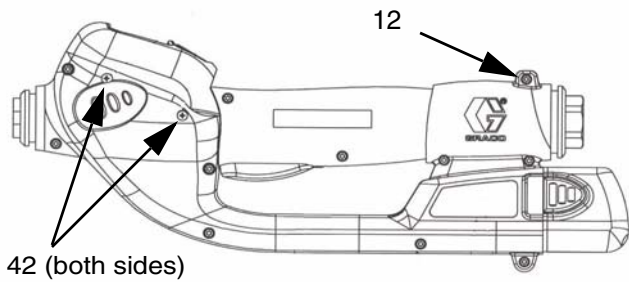

FIG. 24
2. Remove the battery (11). See **Parts Drawing for the 246008 and 249881 Electronic Meters** on page 32.
3. Slide the rear boot (24) off the hose.
5. Remove the impact guard (40) from the meter.
6. With a phillips screwdriver remove the four phillips screws (42) holding the bezel to the cover halves (18 & 19). See FIG. 24.
7. With a T-10 torx driver remove the remaining eleven screws (12) holding the cover halves together (18 & 19).